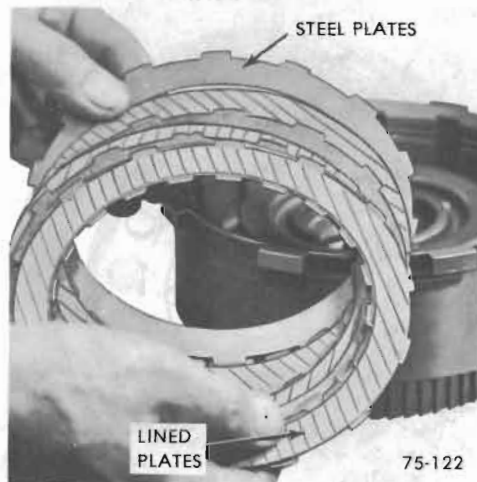

Figure 75-177
6. Lubricate with transmission fluid and install four (4) faced plates and four (4) steel separator plates starting with a steel plate and alternating steel and faced. See Figure 75-177.